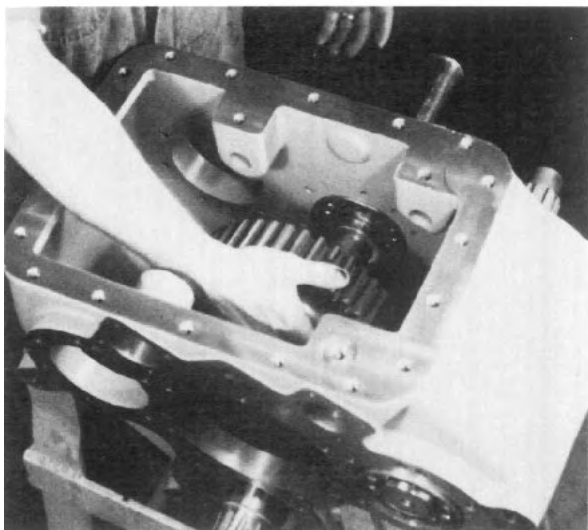

Fig. 22
3. Put the spacer washer (Item 34) in place on the alignment tool on the inside of the case. Put the underdrive driven gear and bearing assembly (Items 35 and 36) on the alignment tool (See Fig. 22). Insert the sliding clutch (Item 37) into the engaged position inside the underdrive driven gear.